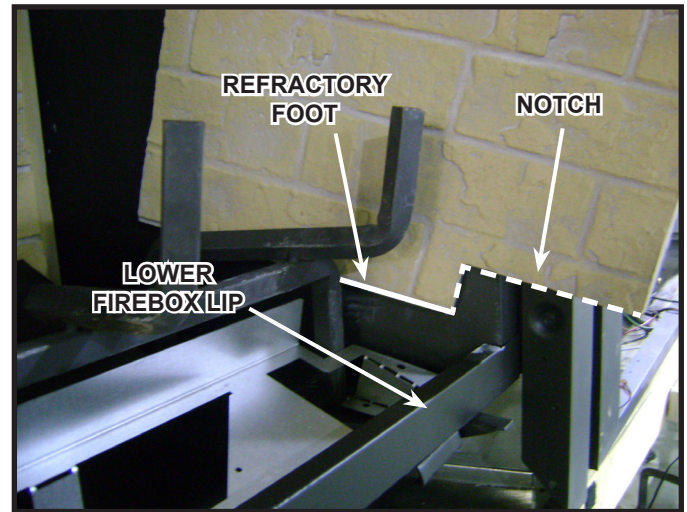

Figure 3
3. Place the right refractory panel against the right sidewall of the firebox. Rest the rectangular notch located on the bottom of the right refractory panel over the lower firebox lip. Let refractory foot rest on firebox after panel's notch has been mated with firebox lip. See Figure 3.